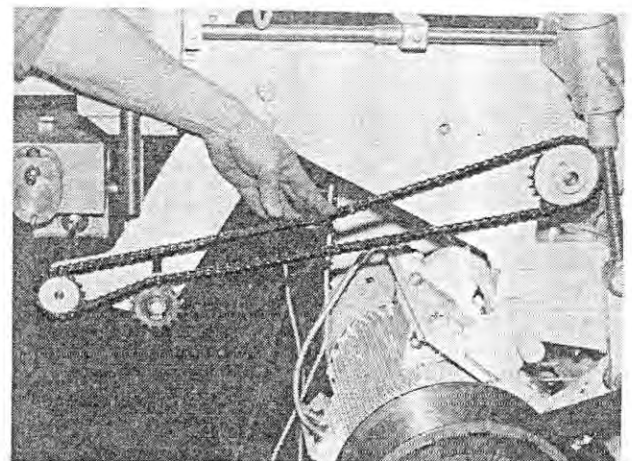

Fig. 67
7. Apply pressure to the longest exposed section of the drive chain (Figure 67). It must deflect by 15...20 mm.